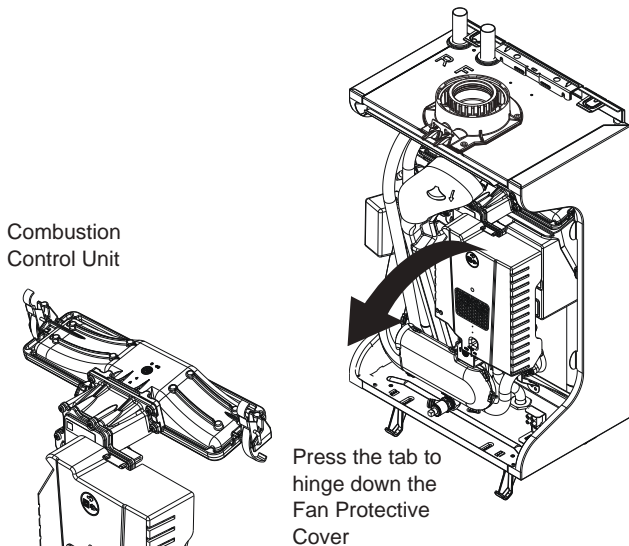

Fig. 47
10.3.10 Combustion Control Unit (Figs. 47 to 50)
2. Disconnect the cable from the bottom of the PCB, disengage the fan protective cover securing tab and lower the cover (Figs. 47 & 48).